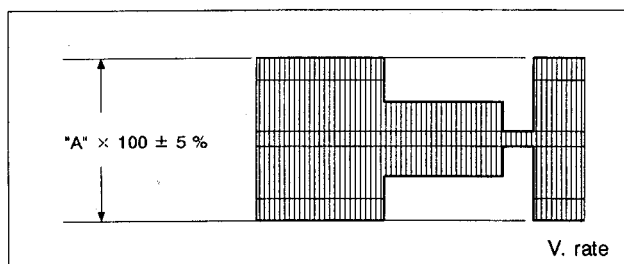

Fig. 3-1-17 C comb gain
- 1) Observe waveform at TP151, and make a note of the color level "A", as in Fig. 3-1-17.
- 3) Adjust R108 so that the color level becomes $100 \pm 5 \%$ of the noted "A" level, as in Fig. 3-1-17.